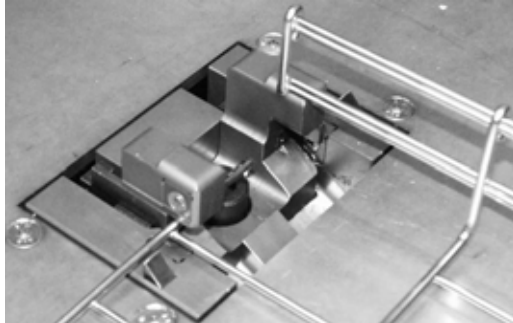

Fig. 4.36 – Cut of the part of base wire
7. as regards the wider cut down size, cut, by a single cut, the part of base wire 50 mm long which is remained from the previous cut (fig. 4.36).